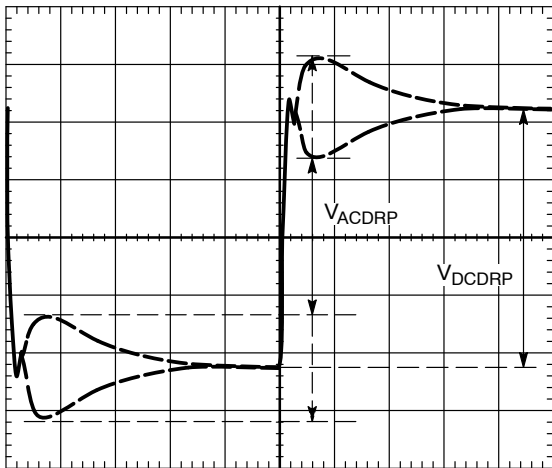

Figure 14. AC Load Line Waveform
- Measure the output waveform (use dc offset on scope to see the waveform). Try to use a vertical scale of 100 mV/div or finer. This waveform should look similar to Figure 14.
- Use the horizontal cursors to measure V_{ACDRP} and V_{DCDRP} as shown in Figure 14. Do not measure the undershoot or overshoot that happens immediately after this step.